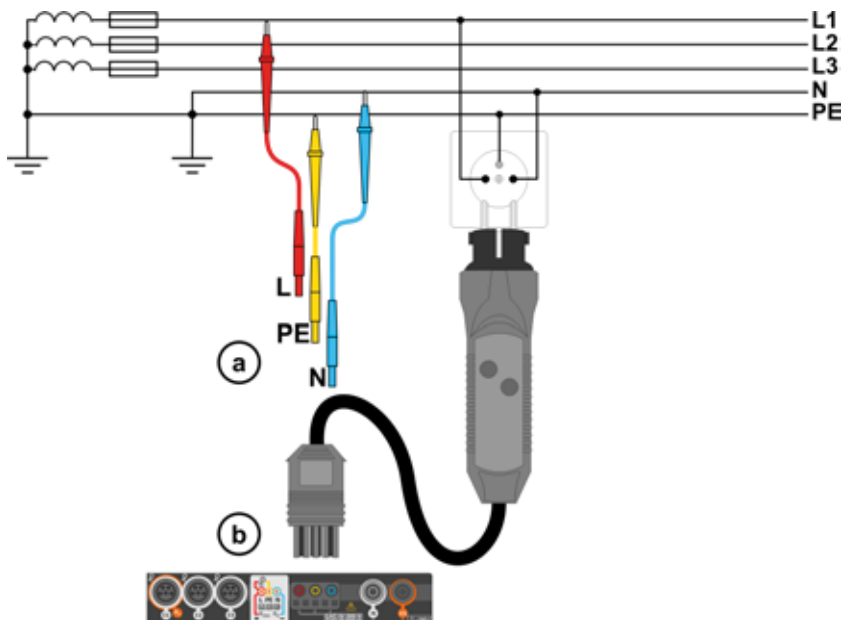

Fig. 3.1 Measurement in L-PE circuit
- 1 Connect test leads according to Fig. 3.1 or Fig. 3.2.